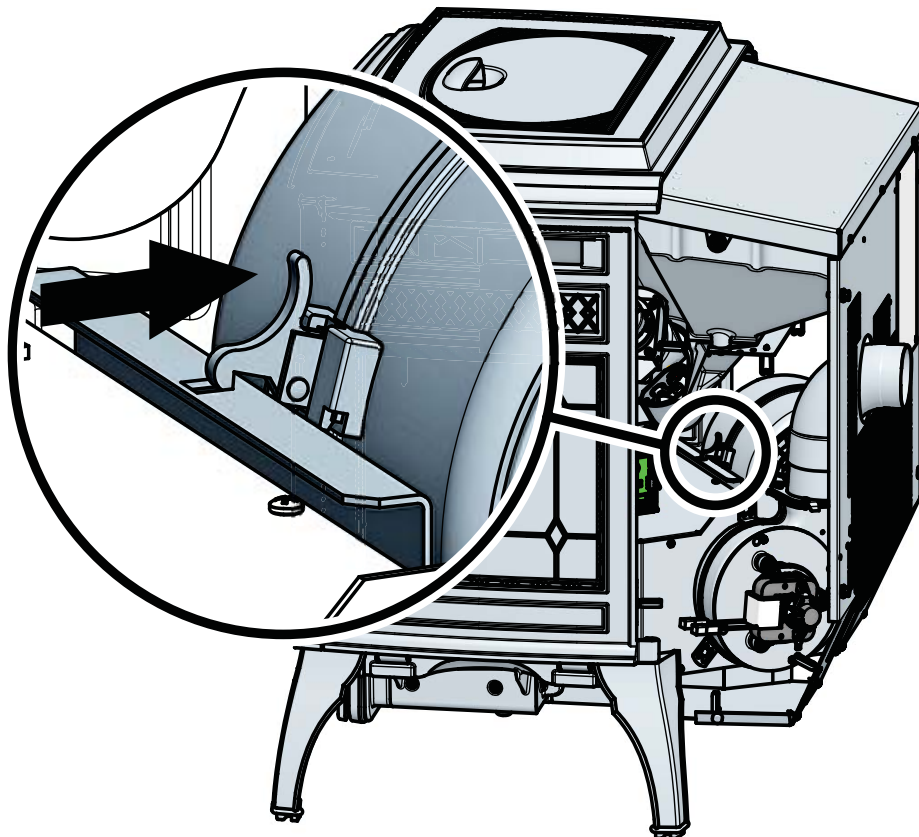

Figure 21.1
2. Remove the left side panel by loosening the 2 screws using a phillips head screw driver or wrench. **Figure 21.1**
5. Reach behind the blower and release the latch by pushing the top of the latch towards the blower. **Figure 21.1**
8. When the blower is properly positioned the latch will engage the notch to hold the blower in place. **Figure 21.1**